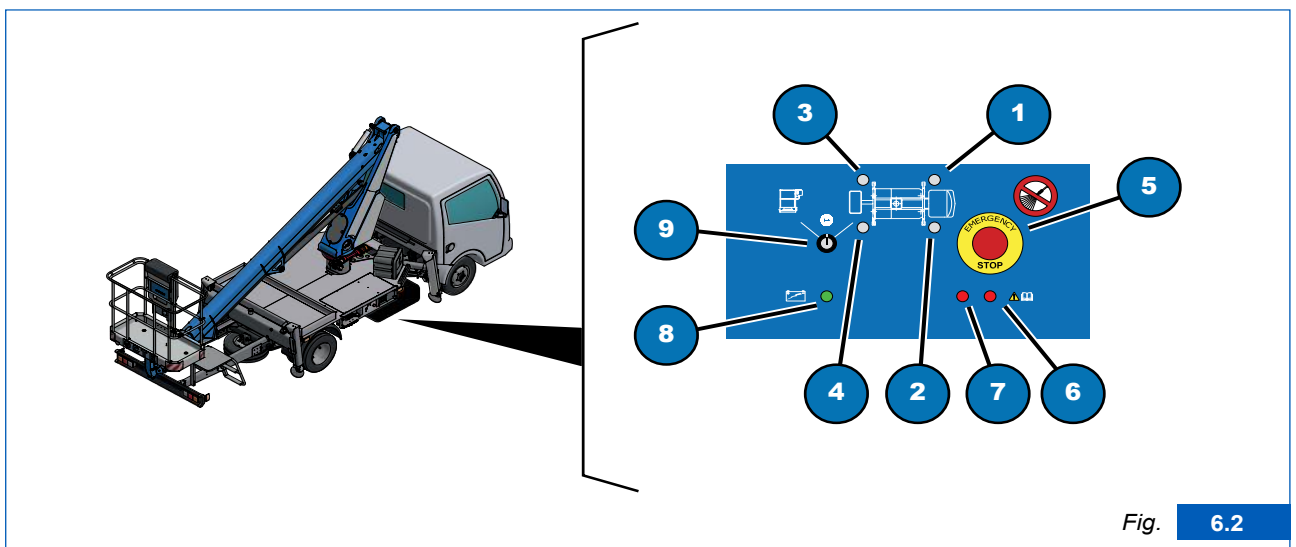

Fig. 6.2
- place the key in the selector switch (Fig. 6.2, 9)
- turn the selector switch (Fig. 6.2, 9) into the “Stabiliser controls” position;
- the light (Fig. 6.2, 8) will turn on;
- make sure that all the stabiliser indicator lights (Fig. 6.2, 1, 2, 3 & 4) are off;
- turn the selector switch key (Fig. 6.2, 9) to the “Work Platform” position;
- Insert the key in the selector switch on the ground control panel and turn it to the “stabilisers” position (Fig. 6.2, 9);
- check that the stabiliser indicator lights turn off (Fig. 6.2, 1, 2, 3 & 4);
- rotate the key to the “neutral” position and remove it from the selector switch (Fig. 6.2, 9).